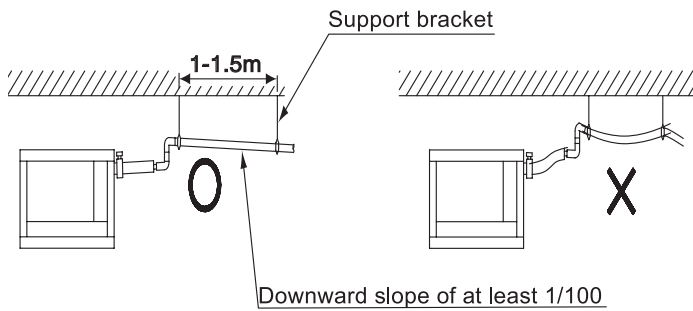

Fig. 10
**(1) Carry out drain piping.**
- Install the drain piping as short as possible with downward inclination of 1/100 or more and such that air may not stagnate. (Refer to Fig.10)
- Install supports at a distance of 1 to 1.5 m so that the piping may not deflect. (Refer Fig.10)
- Make sure to use the attached drain hose (2) and the metal clamp (1).